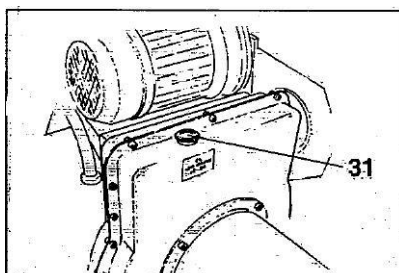

Fig.8.4
- 4) From time to time check the oil level in the gear unit which, when the tool carrier bracket is completely lowered at end travel, should not show the sight glass on the gear casing as completely empty. If necessary top up with Esso Spartan EP 320 or similar oil (eg, Agip F1 REP 237, BP GRX P 320, Chevron Gear Compound 320, Mobil Gear 632, Shell Omaia Oil 320, Castrot Alpha SP 320). Remove the cap (31, Fig.8.4), put in oil and lock the cap again.